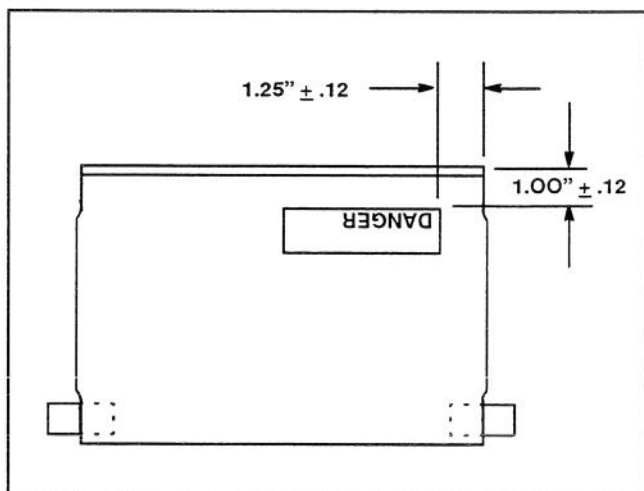

Figure 4
7. Using dimensions shown in figure 4, locate and affix a danger decal to each front shield.